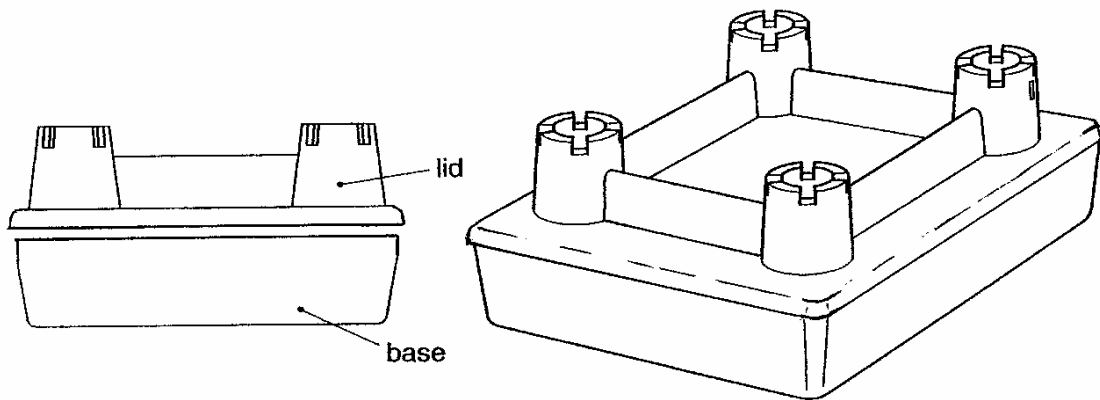

Fig. 6
5 Fig. 6 shows a novelty storage box designed for young children.
- (c) Use sketches and notes to show the design of the mould needed to successfully vacuum form the **lid** of the box shown in Fig. 6.
- (d) Using the novelty storage box in Fig. 6 as an example, describe how the principle of “sustainable design” can be applied to everyday products.